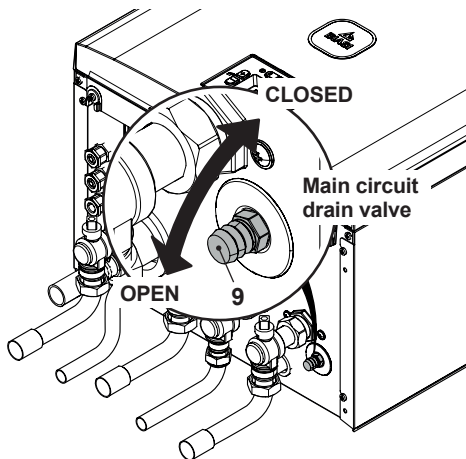

Fig. 10.8
- Loosen the central heating drain cock 9 indicated in Fig. 10.8.